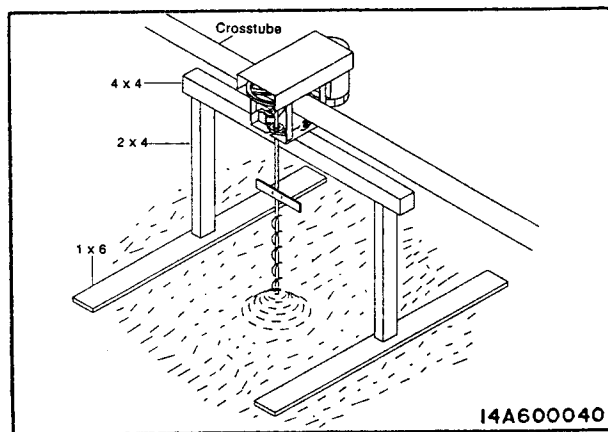

FIG. 18 - RESTARTING AUGERS
1. Support carriage as shown by laying flat board on top of grain. This will prevent distortion of the cross-tube. Fig. 18.